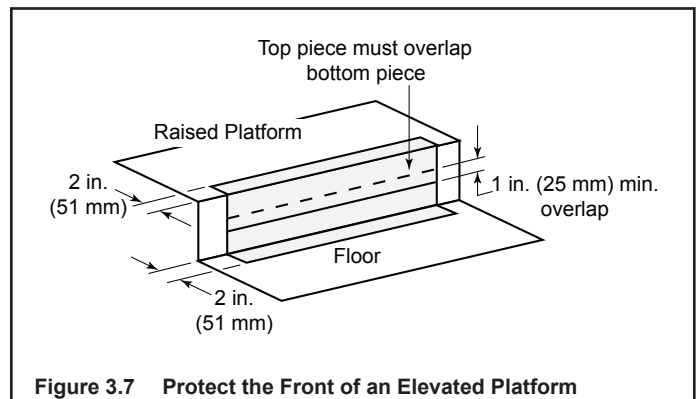

Figure 3.7 Protect the Front of an Elevated Platform
- Protect the front of a platform elevated above the hearth extension with metal strips (not included with fireplace) per Figure 3.7. See Section 7 for hearth extension instructions.